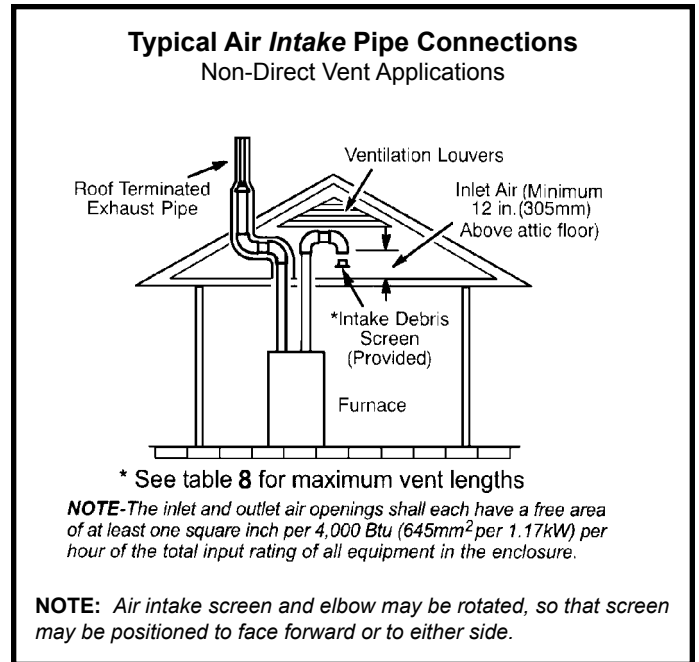
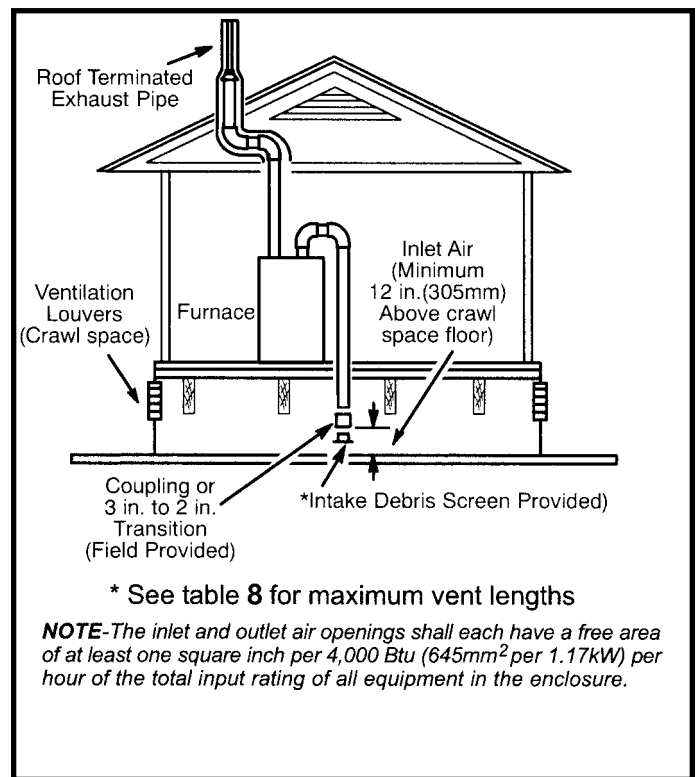

Figure 25
Figure 26
1. Use field-provided materials and the factory-provided air intake screen to route the intake piping as shown in Figure 25. Maintain a minimum clearance of 3" (76 mm) around the air intake opening. The air intake opening (with the protective screen) should always be directed forward, or sideways.
2. If intake air is drawn from a ventilated attic (Figure 25) or ventilated crawlspace (Figure 26) the exhaust vent length must not exceed those listed in Table 8. If 3" diameter pipe is used, reduce to 2" diameter pipe at the termination point to accommodate the debris screen.